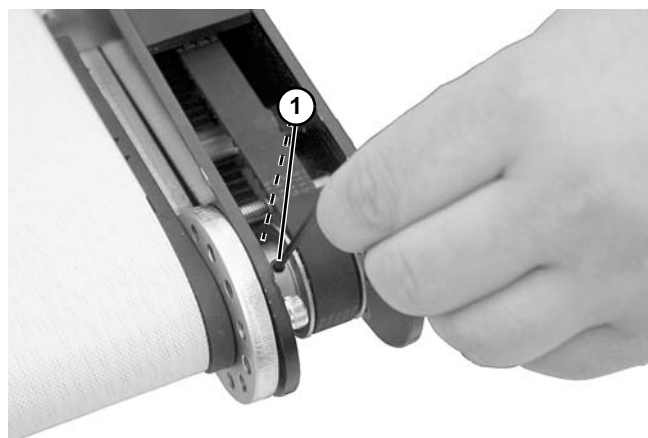

Figure 21
4. Loosen set screws (Figure 21, item 1) on driven pulley.